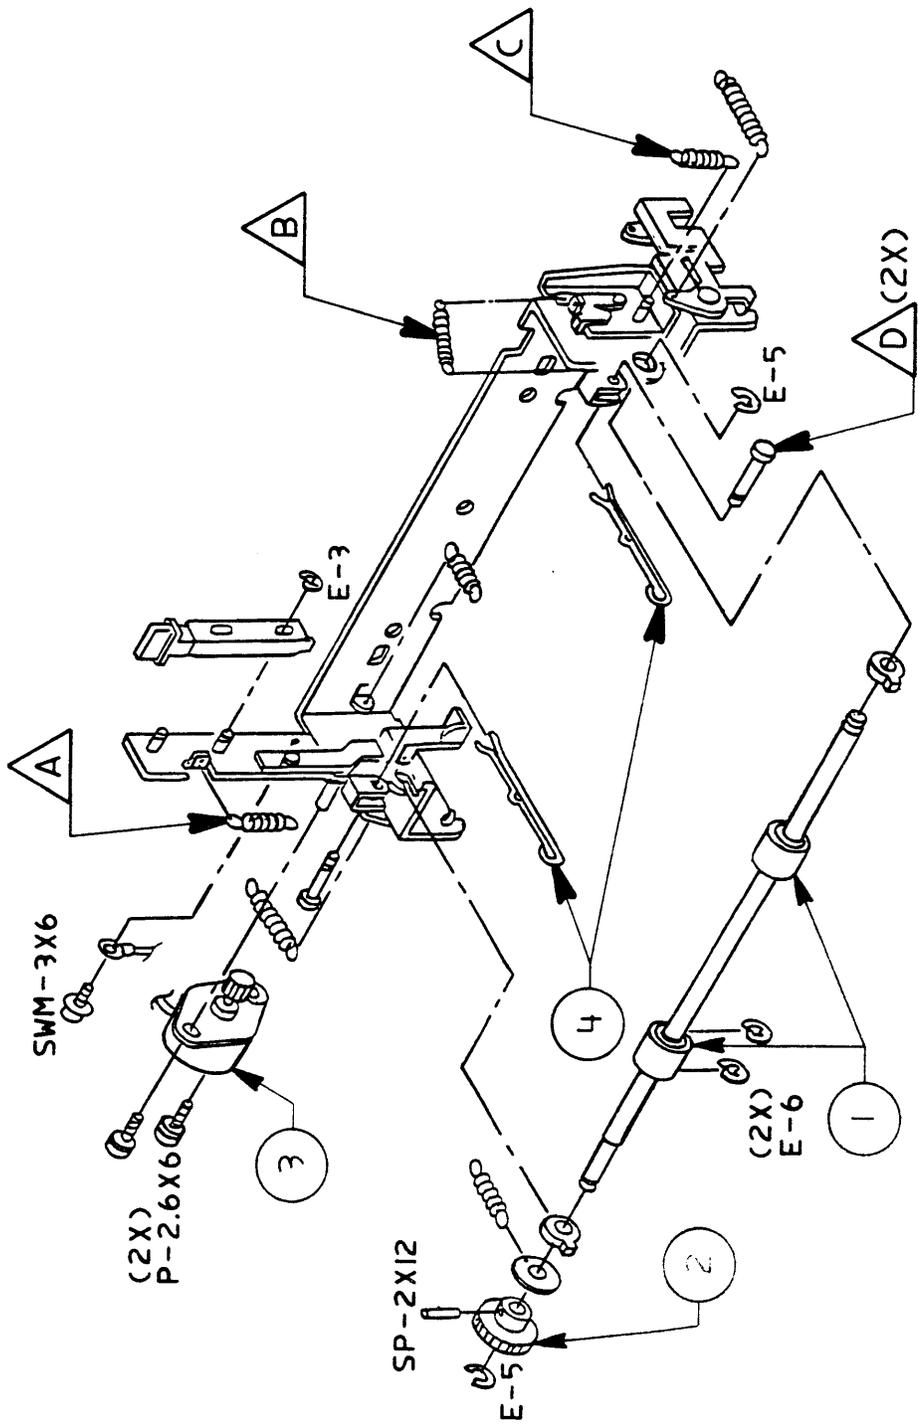

FIGURE 3
- IPL.7 Frame Assembly (Figure 3)
□ FRAME ASSEMBLY (Figure 3)